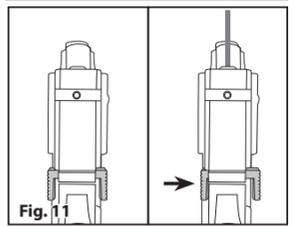

Fig. 11
- To turn on the laser, push the activation switch in from the right side of the pistol. In the "ON" position, the switch will protrude from the left hand side of the pistol (Fig. 11).
- To turn off the laser, push the activation switch in from the left side of the pistol (Fig. 11).